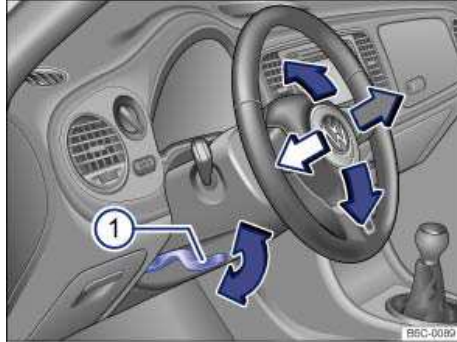

Fig. 41 Manual adjustment for the steering wheel position.
- Push down on the lever ⇒ fig. 41 \(1\).